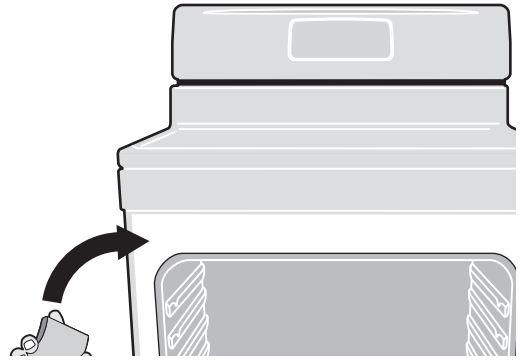

Figure 23: Do not clean the oven door gasket
12. Wipe oven cavity and bottom. Do not clean oven door gasket (See Figure 23).